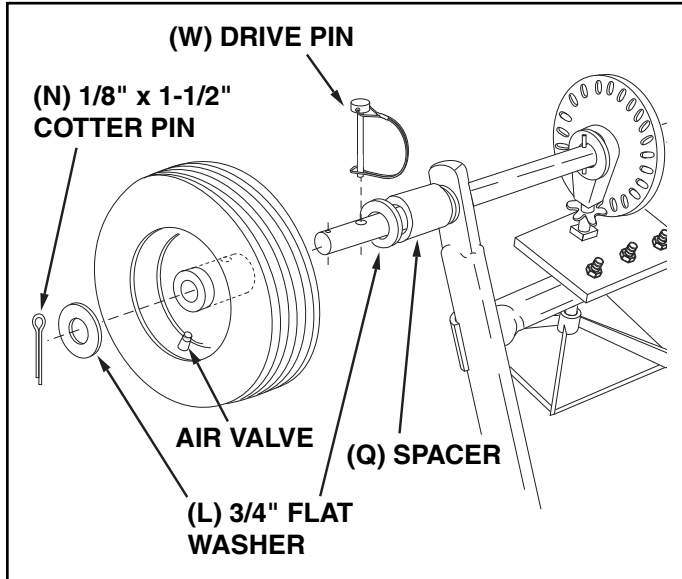

FIGURE 4
9. Assemble a spacer (Q), a 3/4" flat washer (L), a wheel (air valve facing out) and another 3/4" flat washer (L) onto the end of the axle that has both the **large and small holes**. See figure 4.
10. Install a 1/8" x 1-1/2" cotter pin (N) into the small hole in the end of the axle. See figure 4.
11. Open the bail on the drive pin (W) and install it through the wheel and the large hole in the axle. Close the bail to lock the pin in place. See figure 4.
### THE FREE WHEELING FEATURE (figure 4 on page 5.)